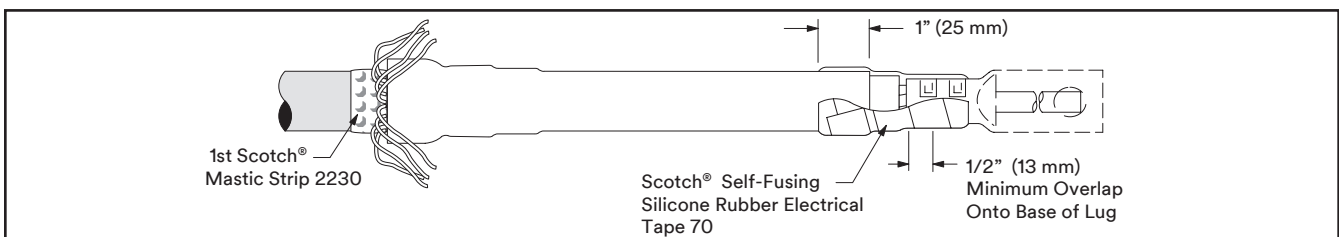

Figure 21
Apply 1 half-lapped layer of Scotch® Self-fusing Silicone Rubber Electrical Tape over at least 1/2" (13 mm) of lug barrel and onto the termination insulator for 1" (25 mm) (Figure 21).
- b. Bend all of the drain wires away from the cable jacket, towards the bottom of the installed termination body, between 45 degrees and 90 degrees (Figure 21).
- c. Select a Scotch® Mastic Strip 2230 from kit and remove white release liners. Using light tension, apply a **SINGLE WRAP** of mastic around the cable jacket directly against the bottom of the termination body (Figure 21). Cut off excess.